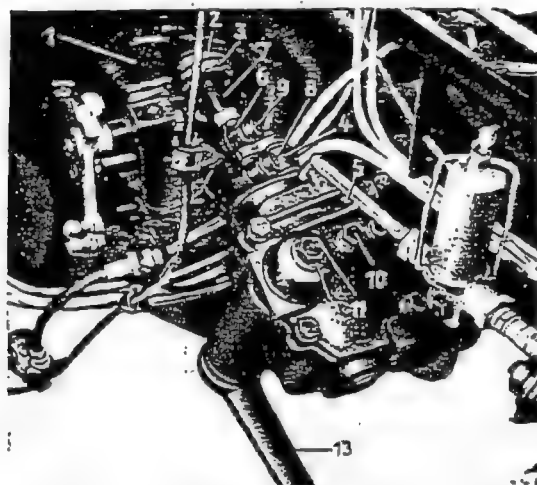

Fig. 46-13/1
1. Unscrew the hexagon socket screw (lower clamping screw) (8) from the lower flange (4) of the steering coupling (Fig. 46-13/1).